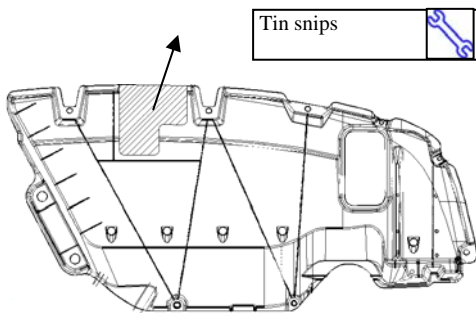

Fig. 10-1
- (a) Locate scribe line on inside surface of part. Scribe perimeter shown as hatched area. (Fig. 10-1)